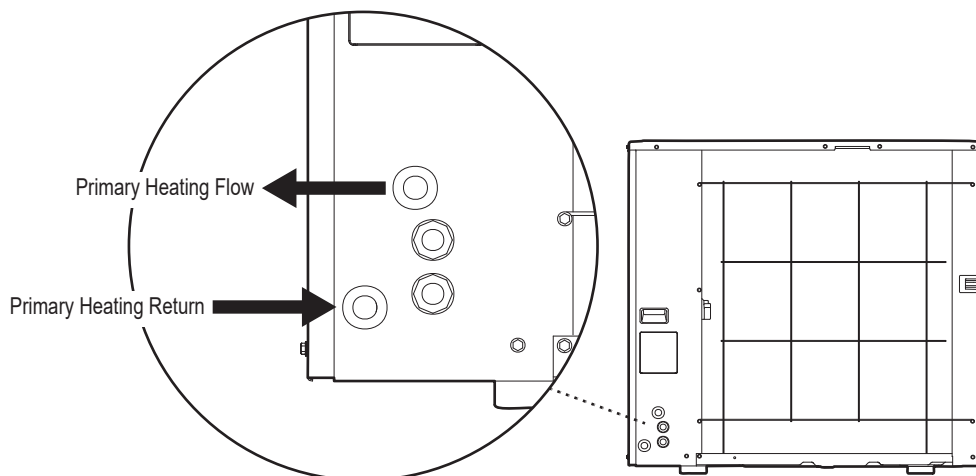
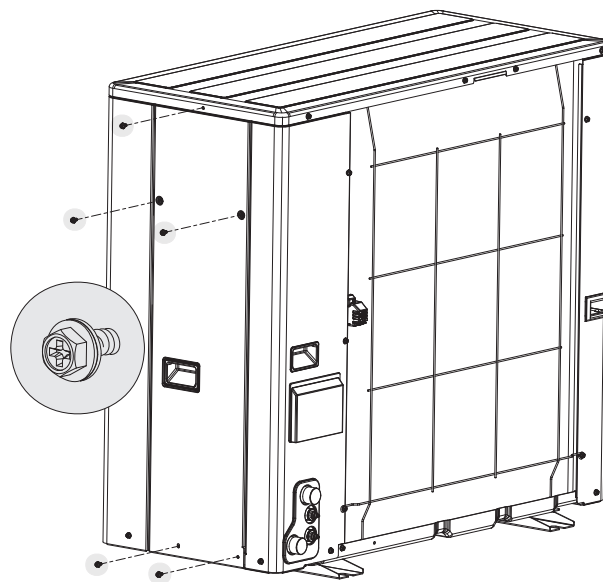
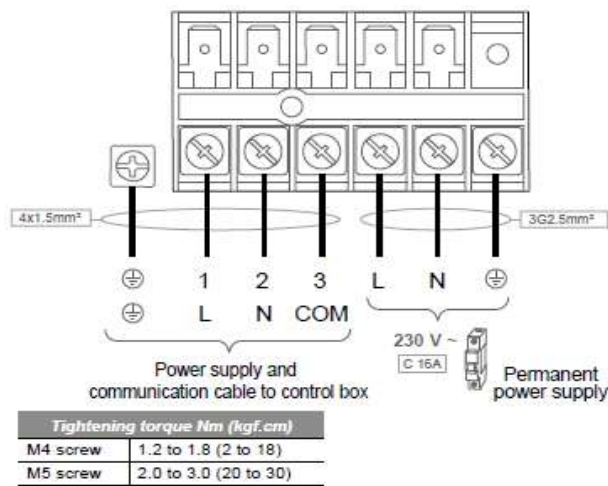

Figure 32. Primary Heating Connections
Figure 33. Heat Pump - Panel Removal
Figure 36. Connections to Heat Pump Terminal Block 4/5 kW models
Install the nine Condensate Drain plugs (supplied) in the Heat Pump base panel, refer to Figure 32.
Install the Condensate Drain Elbow (supplied) into the drain connection point in the Heat Pump base panel, refer to Figure 32.
1. To remove the panel, the 4 lower screws shown in *Figure 33* are removed using an appropriate tool.
When making connections to the electrical terminals make sure that there is no exposed copper wire and that connection terminal screws are tightened to a torque value shown in *Figure 32*, *Figure 33* and *Figure 36*.
The supply connections are shown in *Figure 32*, *Figure 33* and *Figure 36* and secured by the securing clip below the terminal.
Communication wires are shown in *Figure 32*, *Figure 33* and *Figure 36* and secured by the securing clip below the terminal.